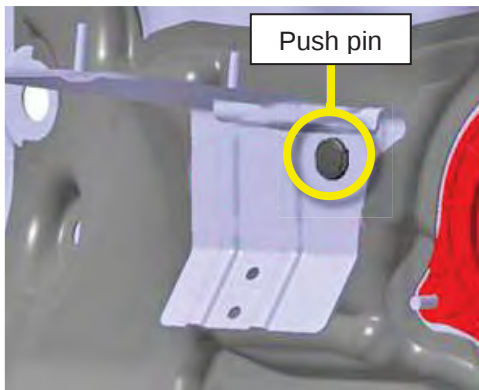

Figure 11
- If the bracket is secured to the bulkhead by a push pin (Figure 11), remove and discard the push pin, remove and discard the bracket, and then skip to step 21.